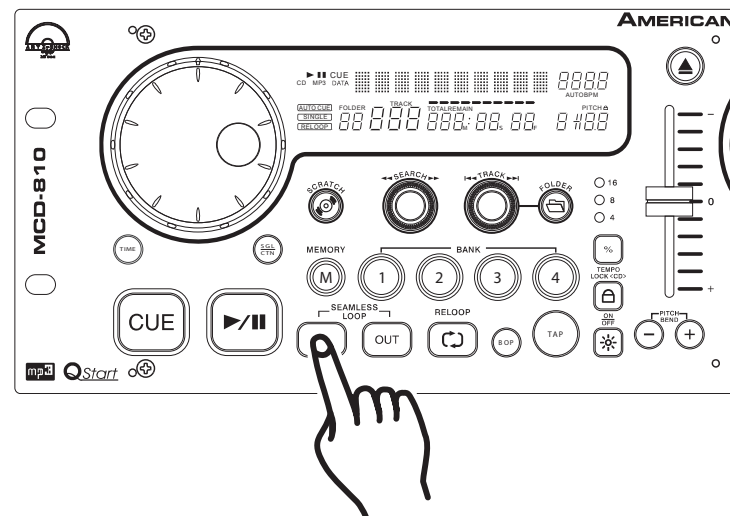

Figure 13
A cue point is the exact point playback will begin when the *PLAY/PAUSE BUTTON* (22) is pressed. You may set your cue points anywhere on a disc or in a track. You may set up to four independent cue points per disc. Four cue points are stored in the *BANK BUTTONS 1-4* (7) and one is shared by the *IN BUTTON* (21), and the *CUE BUTTON* (23). There are two (2) ways to set and create a CUE point as detailed in figures 13 and 14
- 1) You may press the *IN BUTTON* (21) on the fly (while the disc is playing). This will set a CUE Point without music interruption. Pressing the *CUE BUTTON* (23) will now return you to the same point that you pressed the *CUE BUTTON* (23). You may now store this CUE Point in any of the *BANK BUTTONS 1-4* (7). Pressing the *CUE BUTTON* (23), or the *IN BUTTON* (21) will now return you to this exact point.